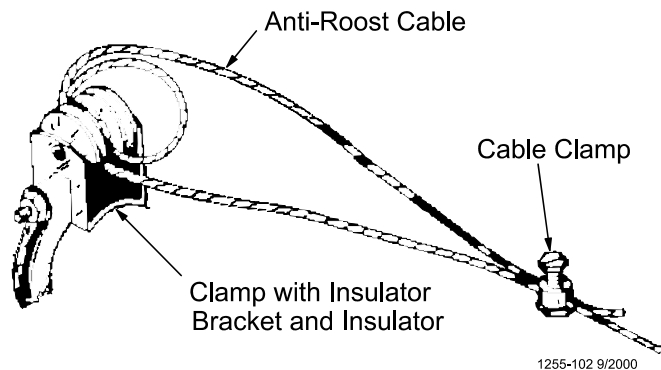

Figure 74. Anti-Roost Cable at the Hopper
2. Start at the hopper end of the line and form a loop around the anti-roost bracket. For best results, make a double loop around the anti-roost insulator in the center groove of the insulator and fasten with a 1/16" cable clamp as shown in **Figure 74**.